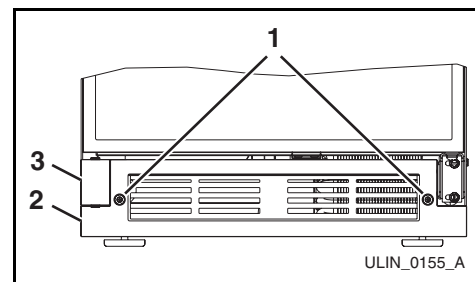

Figure 14
2. Loosen the two screws (**Figure 14, 1**) completely.
3. Remove grille (**Figure 14, 2**) and grille cap (**Figure 14, 3**) from unit.